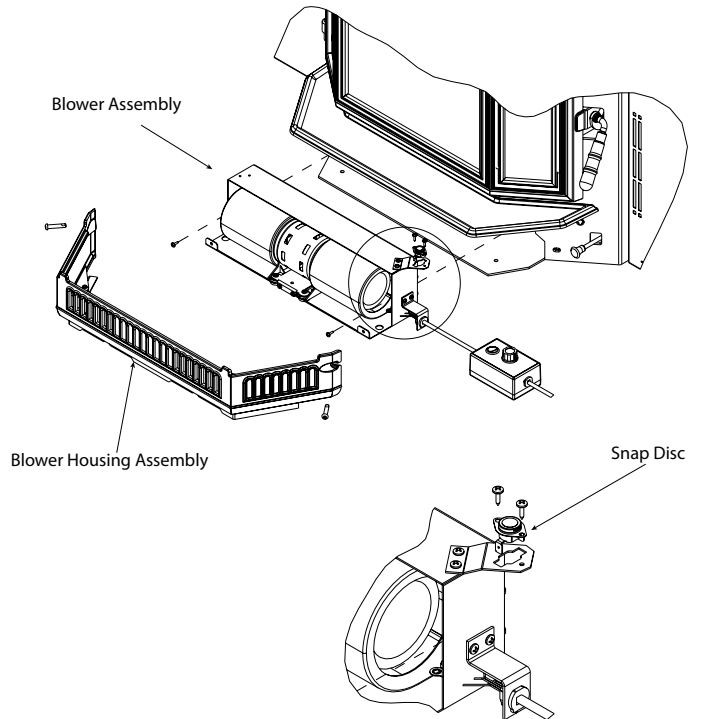

Figure 26.2
1. The snap disc bracket assembly is located on top of the blower assembly towards the side (**Figure 26.2**).